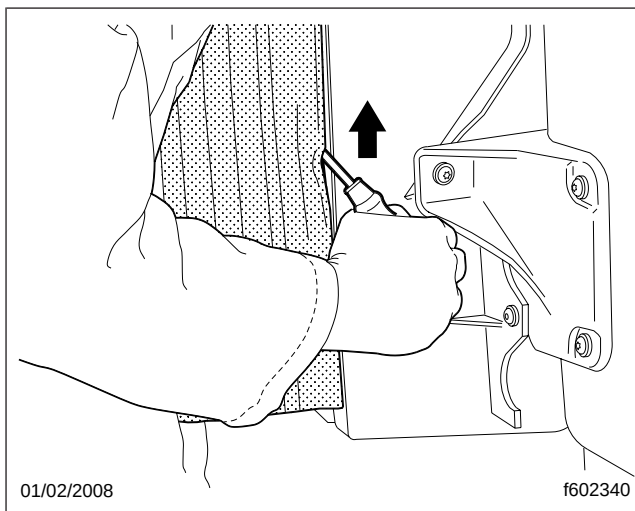

Fig. 1, Installing the Flex Extender
2. With the tires chocked, install the flex extender on the side extender flange. Starting at the bottom, push the flex extender onto the side extender flange. Then, while pressing on the flex extender from the outboard side, work a windshield pick or screwdriver upward on the inboard side, folding the edge of the flex extender onto the flange; see Fig. 1. Support the flex extender upright while working upward from the bottom.